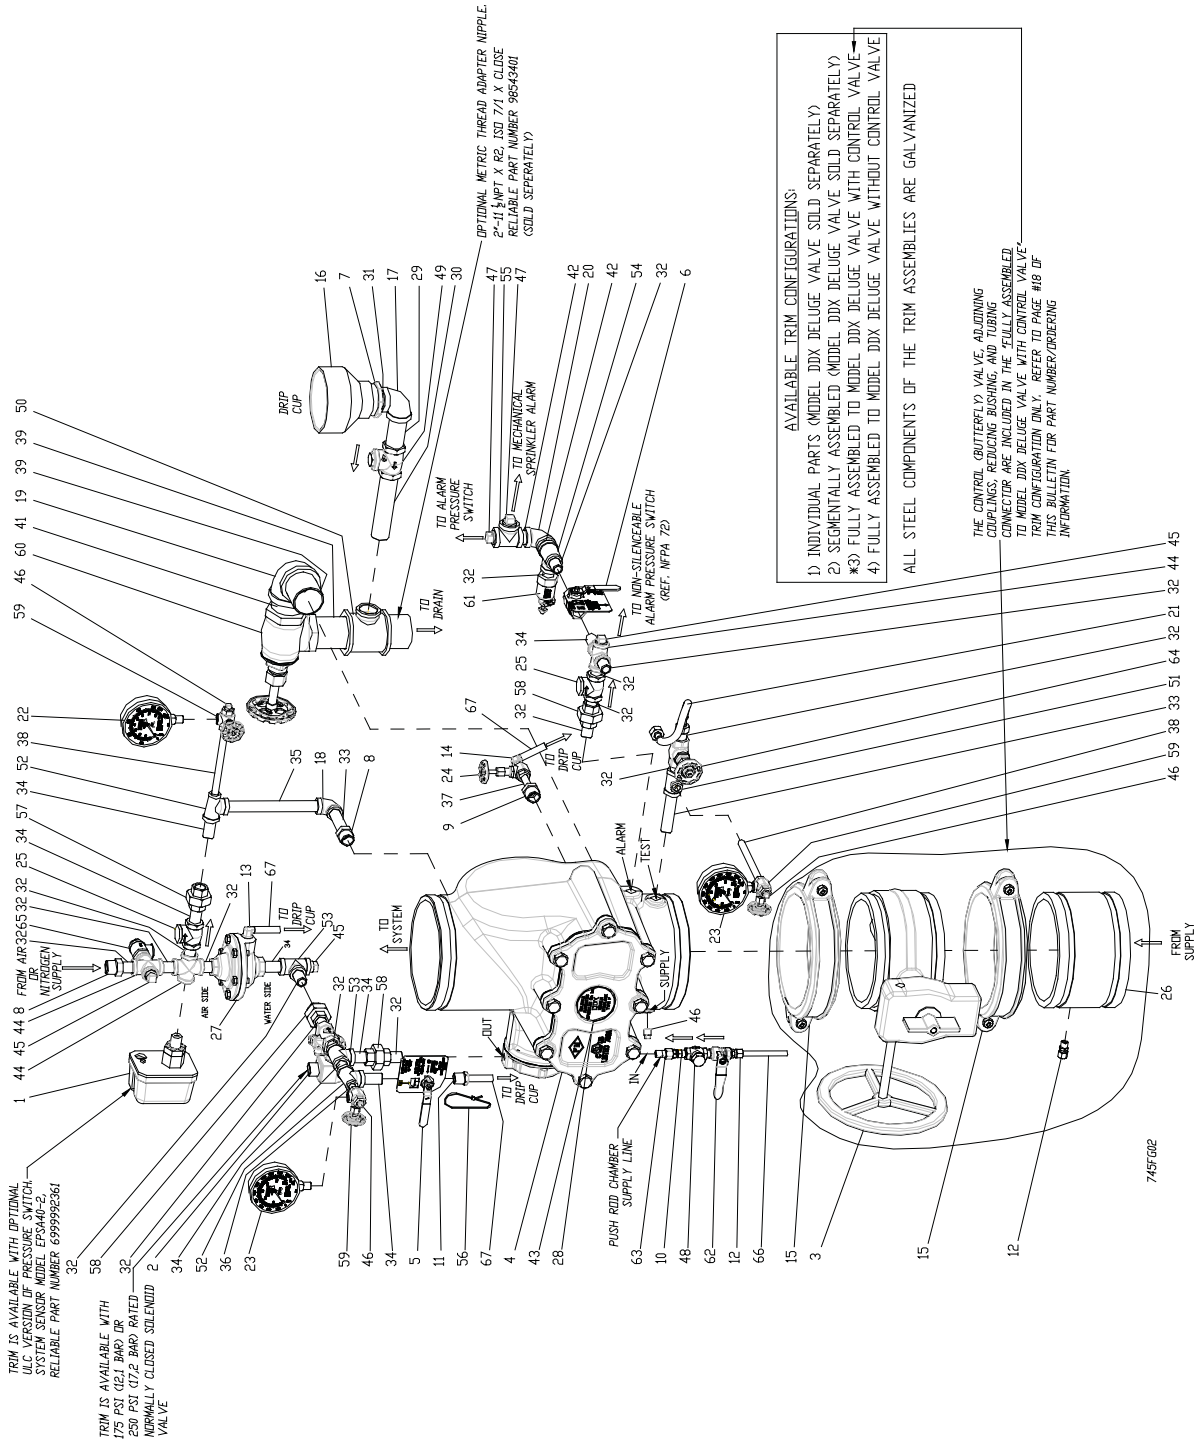

Fig. 2
The Reliable Type F Double Interlock Preaction System trim set (see Fig. 2) provides all of the necessary equipment for connections to the Model DDX Deluge Valve's pushrod chamber inlet and outlet ports, the 2" (50mm) main drain, alarm devices, air supply, water supply, and required pressure gauges. This trim set is available in individual parts, in time-saving, segmentally assembled kit forms, or fully assembled to the Model DDX
All sizes Type F Double Interlock Preaction System trim sets may be equipped with the optional Reliable Model B1 Accelerator, trim kit P/N 6516000003, (see Figs. 2 & 3). This device acts as an exhaustor which will hasten operation of the Model LP Dry Valve Actuator and minimize the water delivery time for the entire system.
The Reliable Type F Double Interlock Preaction System is UL Listed and FM Approved only when used with the trim components shown in Fig. 2.
**Type F Double Interlock Preaction Sytem Parts List (Refer to Fig. 2)**